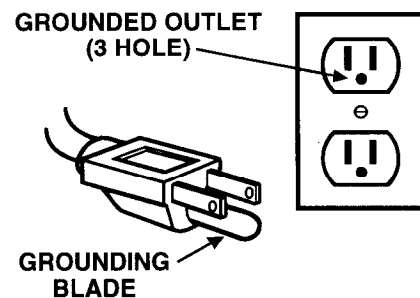

FIG. 23
6. Plug charger into grounded wall outlet **after** connecting charger to machine. (Figure 23)